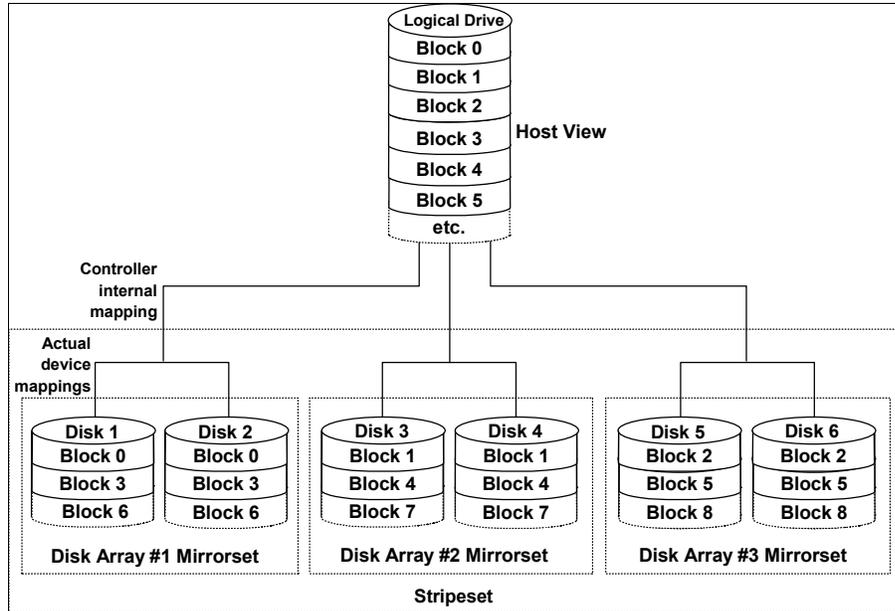

Figure 4-20 RAID-10
- ▶ RAID-10: Higher performance than RAID-1 (Figure 4-20)